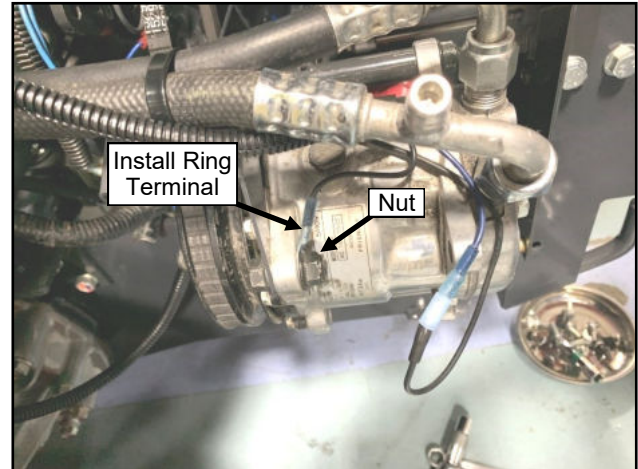

Fig. 7.18 (Connect Dynamo Wiring)
7.18 See fig. 7.18. Connect the female bullet terminal on the end of the blue wire to the male bullet terminal on the compressor.
7.19 Remove the bolt shown in figure 7.18 and install the 3/8" ring terminal from the A/C harness onto the bolt so that it is contacting the ear of the compressor.